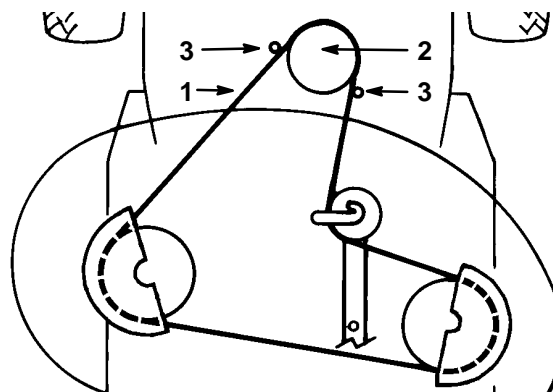

Figure 41
14. Remove the mower belt from the lower engine pulley (Fig. 41). If you are careful, you can flex the belt guide(s) just far enough away from the pulley to remove the belt. If it is too difficult to remove the belt, loosen the bolts and nuts securing the belt guides.
4. Install mower belt onto the lower engine pulley (Fig. 41). If you are careful, you can flex the belt guide(s) just far enough away from the pulley to install the belt. If it is too difficult to install the belt, loosen the bolts and nuts securing the belt guides.